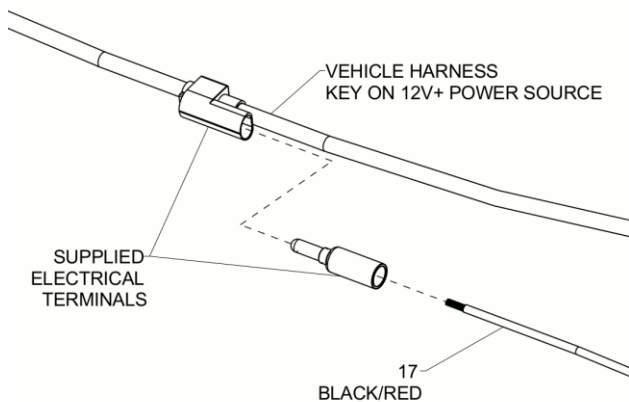

Figure 9. Key-On Power Source Connection G10756
- Connect the un-terminated BLACK/RED key-on power source wire of the Vehicle Side Wiring Harness (17) to a key-on 12V+ power source on the vehicle using the supplied electrical terminals as shown in Figure 9. Location and end termination type will vary depending on application.